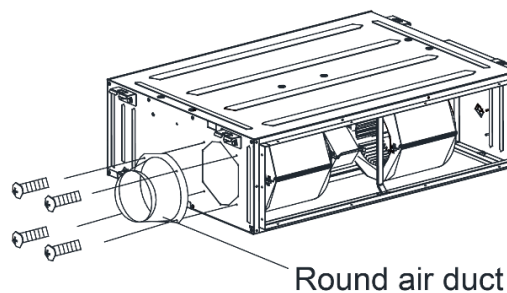

Fig 9.4.9
- (2) Install the round flange so that the fresh air duct can be connected as Fig 9.4.9
- (3) Sealing and heat preservation should be done for both the air pipe and round flange pipe.
- (4) Fresh air should be treated via the air filter.